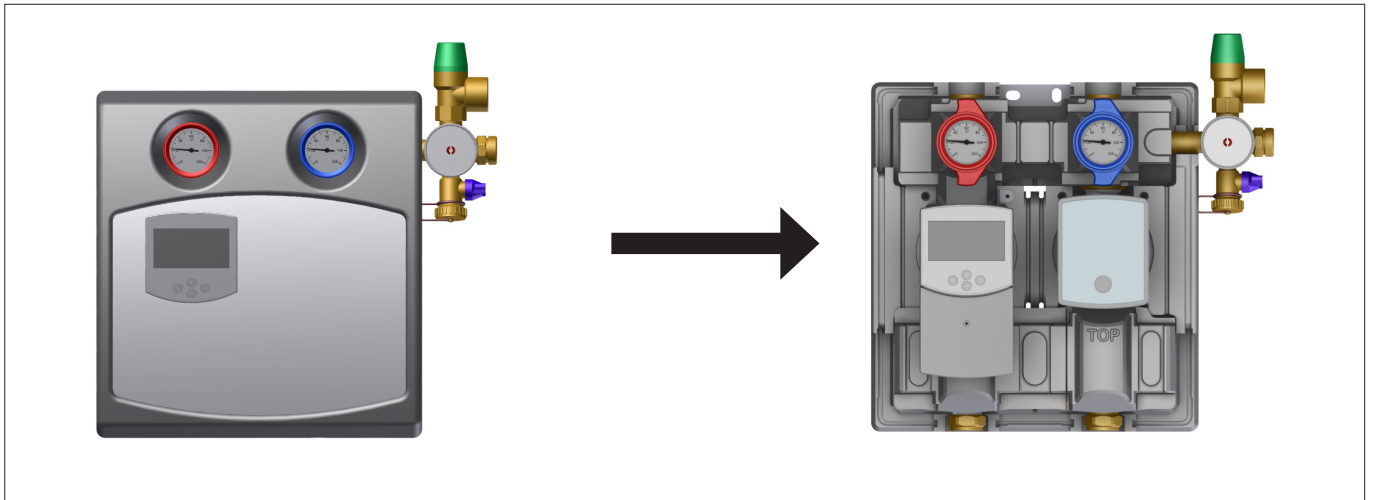

Fig. 4: Dismantle encasing (represented in type 8130 + controller)
- Dismantle the front encasing of the pump assembly (see Fig. 4 on page 10).